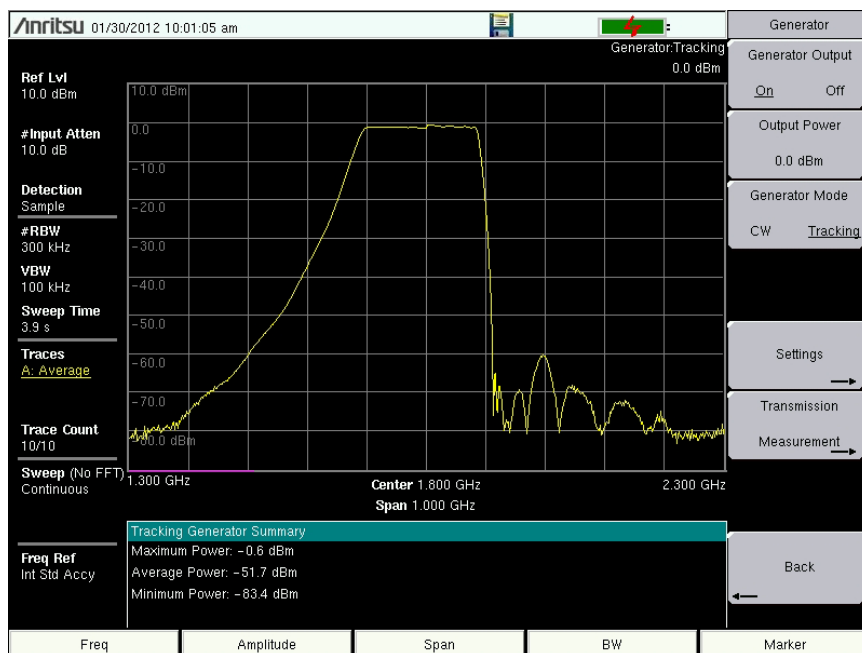
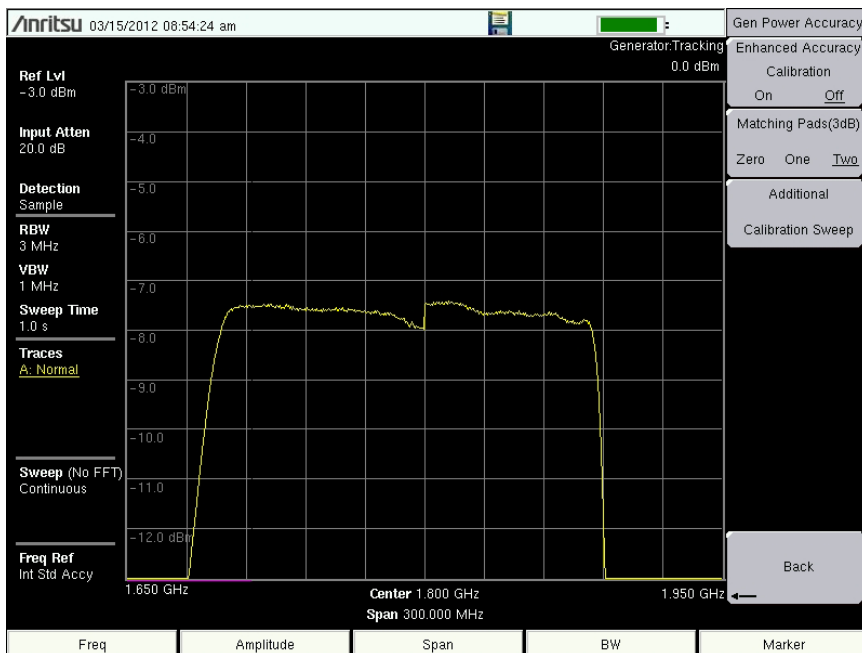
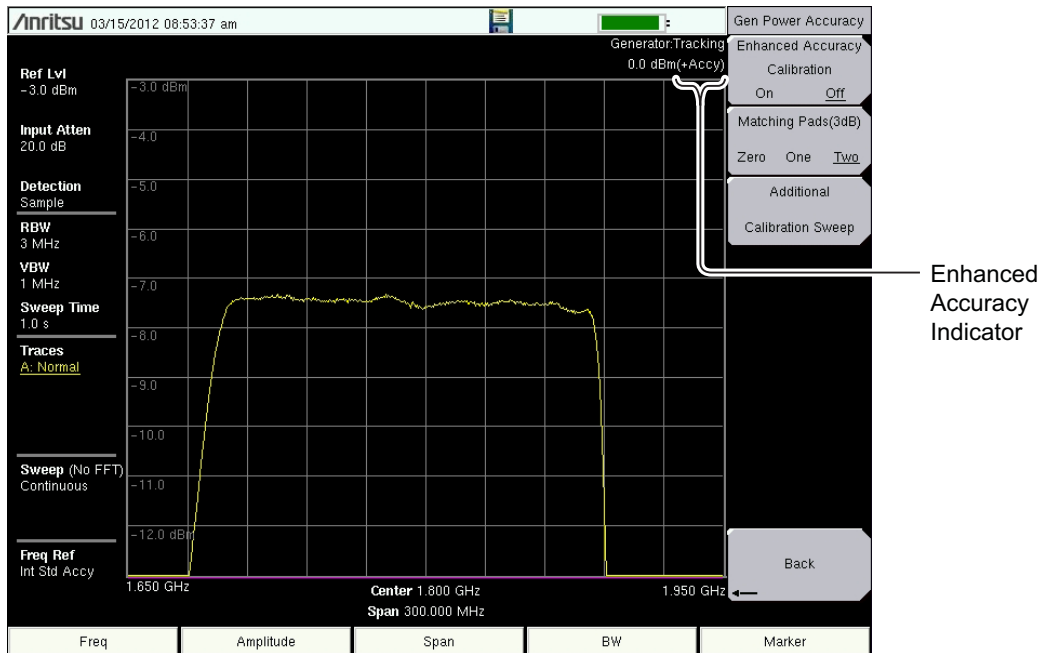

Figure 2-2. Increasing Measurement Dynamic Range, Trace Averaging On, Displaying Power Statistics
Figure 2-4. Before Enhanced Accuracy Calibration
Figure 2-5. After Enhanced Accuracy Calibration
6. If the spectrum analyzer noise floor is too high for the necessary measurements, then reduce the input attenuation and RBW to maximize the dynamic range. Figure 2-2 on page 2-3 shows the sample setup with the input attenuation lowered from 30 dB to 10 dB and with the RBW reduced from 3 MHz to 300 kHz.
7. When measuring a filter with a very high insertion loss in the stop band, press the **Shift** key, then the **Trace (5)** key. Press the Trace A Operations submenu key, then the Average → A submenu key to turn on averaging and clean up the stop band area. An averaging value of 10 will probably be adequate for most filters.
8. Under the Setting submenu turn Power Statistics On (Figure 2-2) to display the spectrum analyzer received Maximum, Average, and Minimum power of each frequency range sweep.
During the Enhanced Accuracy Calibration process, the instrument calibrates across the frequency range, reducing any output ripple. After the successful completion, the (+Accy) label will be displayed after the Generator output power (Figure 2-5 on page 2-6).
5. Figure 2-4 on page 2-5 is a detail of the top of the filter trace shown in Figure 2-2 before calibration. Figure 2-5 shows the same trace section after enhanced calibration using two 3 dB pads.